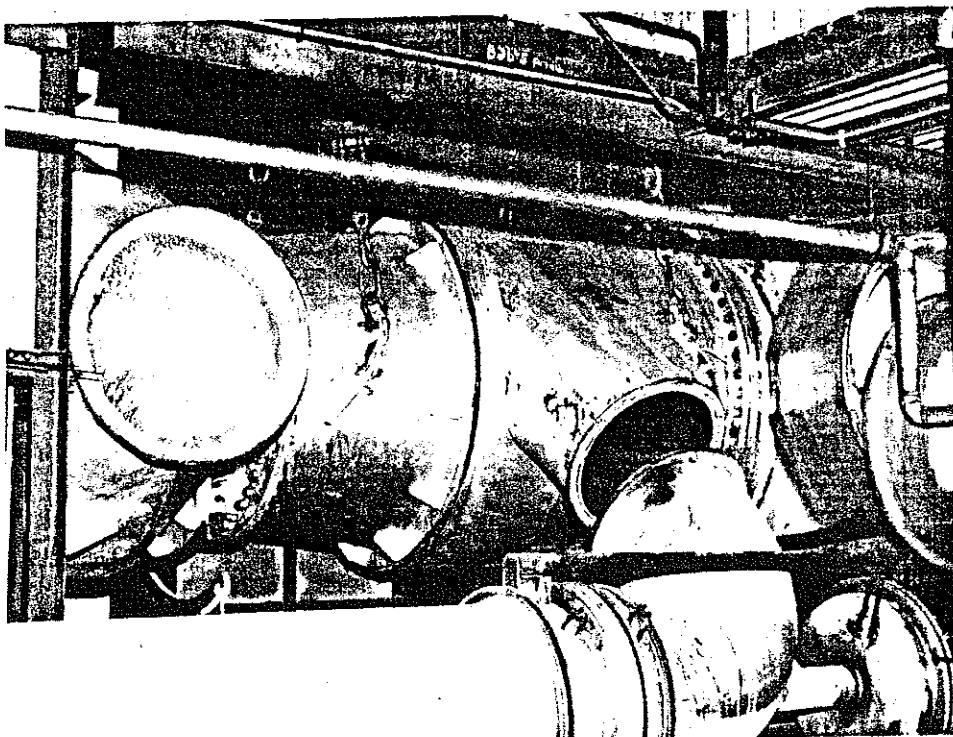

FIG. 11. PLASTIC COVERS
- u. Carefully raise the compressor from its base high enough for installation of plastic covers. Cover the three compressor openings (nozzles) with plastic covers (see Figure 11).